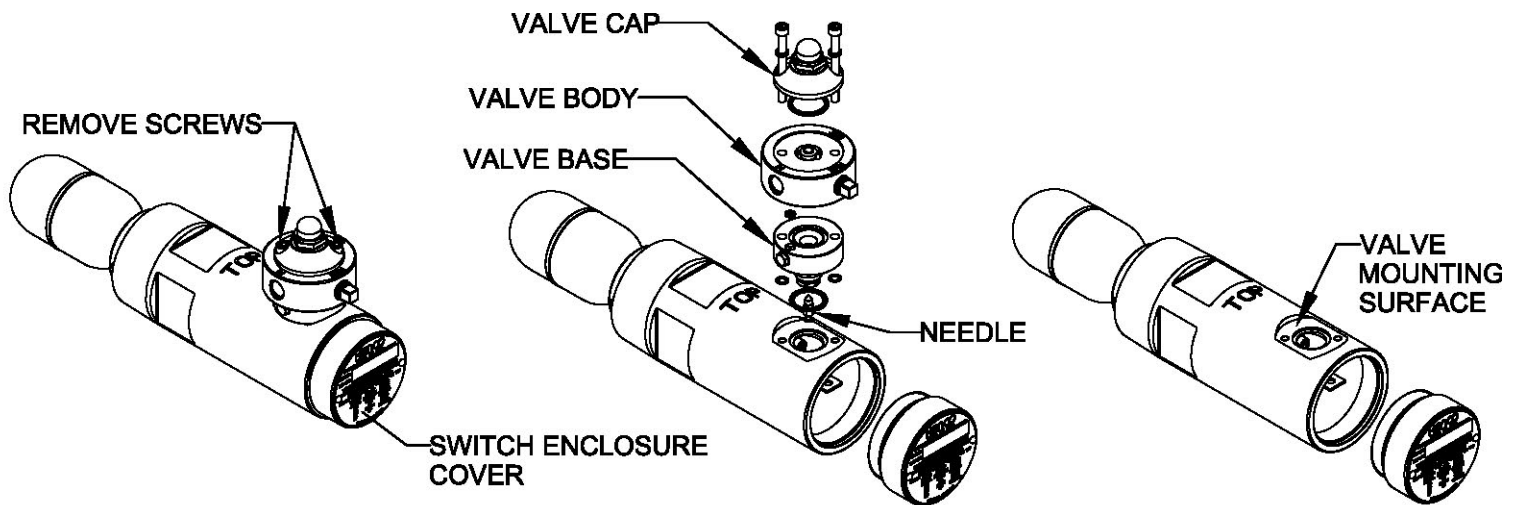

Figure 1
The RK-VALVE-KPFS is the Valve replacement kit for the Kenco pneumatic float switch model KPFS. The Valve is made up of three main components. These components can be seen in the middle view of Figure 1 and consist of the Valve Base, Valve Body and Valve Cap. There are two screws that hold the KPFS to the Switch Body. These two screws also serve as the screws that hold the valve assembly together. Because of this, each of the three Valve components are assembled to the Switch Body one at a time until all three components are in place, then the two screws are installed to clamp the Valve assembly together and secure it to the Switch Body. To get started with the assembly, the old Valve must first be removed.
Refer to the illustrations in Figure 1 for the Valve removal process.
5. Noting the orientation of the Valve Base in Figure 1, carefully insert the Valve Base into the hole in the valve mounting surface while at the same time gently guiding the Needle into the Needle Seat.
6. As you get close to setting the Valve Base down onto the valve mounting surface, make sure that the Valve Base is oriented exactly as shown in figure 1 and that the o-rings (item #3) fully seat into the counter bores on the screw holes in the Valve Base. As the Needle Seat is guided over the Needle, release the Needle and remove the hemostats. The Needle should be captured between the Needle Seat and the Switch Arm.